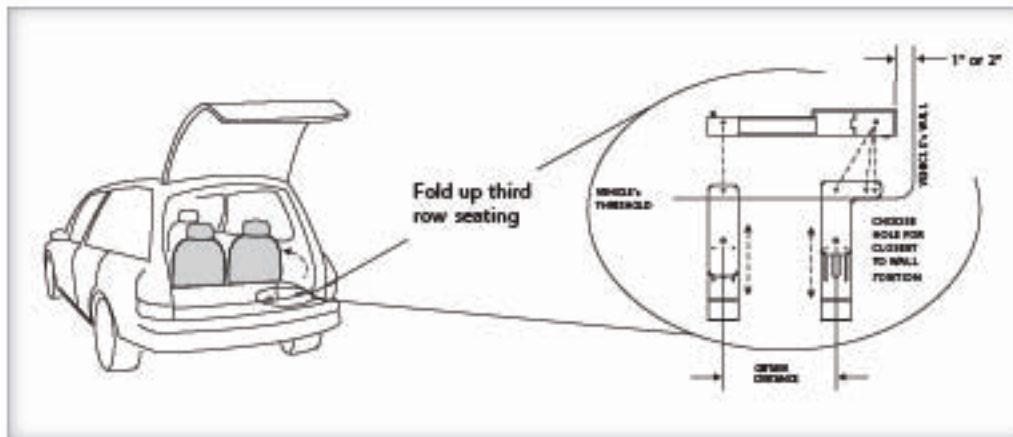

Figure 20-1
1. Place vertical joiners on back wall of seating well corner. [Figure 20-1]